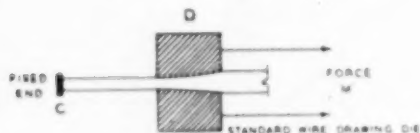

Fig. 1.
effected by extruding it through rollers or a wire-drawing die. A standard wire-drawing die is used in conjunction with the wrapping machine. If a wire is stretched its diameter is reduced. If the end of the wire (C) in Fig. 1 is fixed and a pull is exerted on the die (D) the wire will stretch and the die will move along the wire as soon as the diameter has been reduced sufficiently to pass through the hole in the die. The size of die required to produce a stress of 140,000 lb. per square inch in the wire is 0.142 in. diameter for 0.162-in. diameter wire used in America, and 0.177 in. diameter for the 0.2-in. diameter wire used in this country. Theoretically, stretching the wire and reducing its diameter sufficiently to allow it to pass through dies of the sizes stated would not produce a stress of 140,000 lb. per square inch in the wire. If the heat produced by pulling the die along the wire at a speed of 4 miles to 7 miles an hour is taken into consideration, the stress, when the wire has cooled will be that required. Since the tension is induced in the wire before it comes in contact with the wall of the tank, there is a uniform tensile